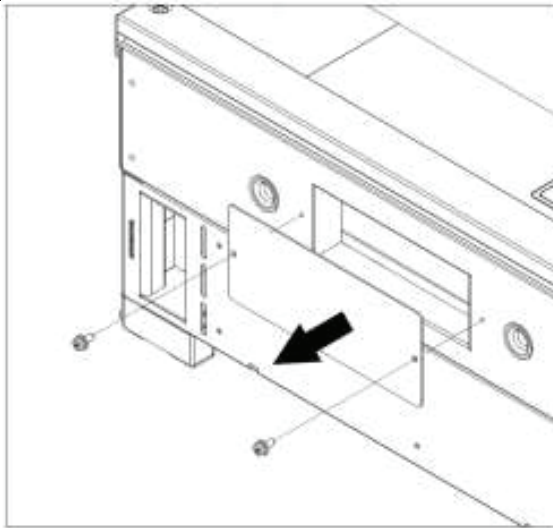

Figure 2.9 – Main Section Cover Plate
(4) Installing the wiring box
① Remove the cover plate at the bottom of the main section. (see Figure 2.9)